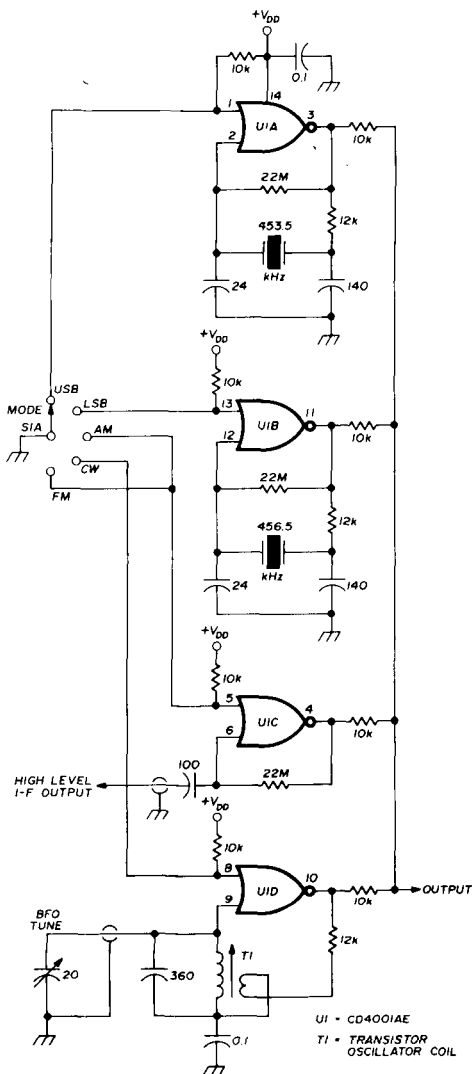

fig. 2. Schematic diagram of the bfo multiplexer. The supply voltage,  $V_{DD}$ , should be between +3 and +15 volts.
fig. 2. Input circuit configurations. Losses in the tapped, parallel-resonant circuit at (A) measurably increased the noise figure. L-network at (B) resulted in lower circuit loss. The circuit at (C), which uses a parallel-resonant rf choke, provided best performance and was used in the final preamplifier design shown in fig. 3.
The idea which gave birth to the bfo multiplexer was that of obtaining four amplifier-oscillators, each with an on-off control, from a single quad 2-input NOR gate package and combining their outputs in a resistive summing network. The resulting circuit is shown in fig. 2. The supply voltage,  $V_{DD}$  should be between 3 volts and 15 volts. Regulation is necessary only to avoid exceeding the 15-volt upper limit. With a 9-volt power supply and the component values shown, a 770 mV p-p square wave output was observed. If you must use different summing network component values, use about 1000 ohms per volt of the supply in series with each output of the CD4001 IC to avoid overloading it.